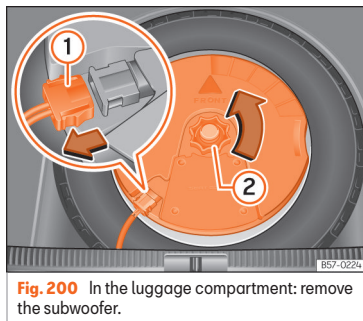

Fig. 200 In the luggage compartment: remove the subwoofer.
- Disconnect the *subwoofer* » Fig. 200 ① speaker cable.
- Turn the securing wheel in an anti-clockwise direction » Fig. 200 ②.